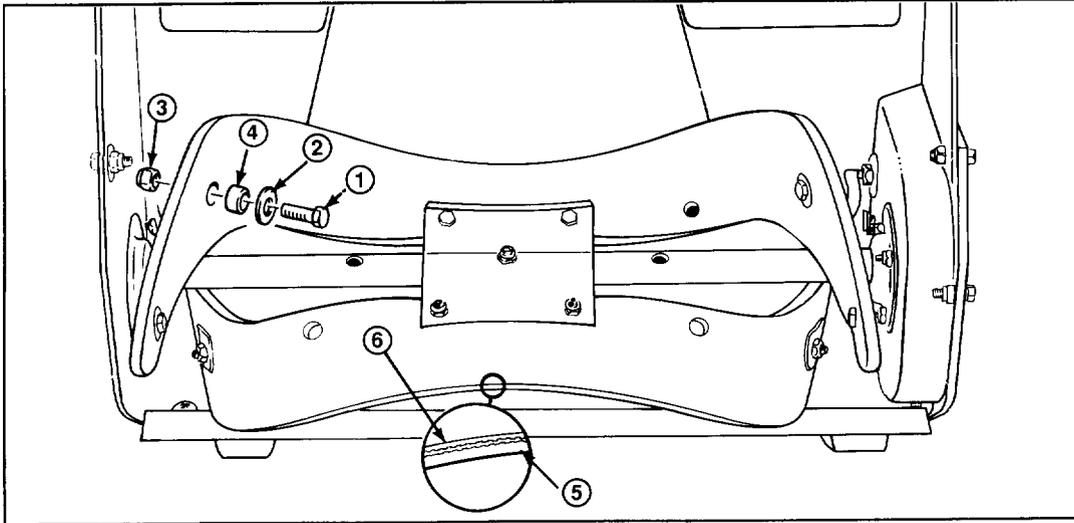

Figure 19
1. REMOVING BLADE (Fig. 19)—Remove (6) 7/16" bolts, (4) washers, and (6) locknuts securing blade to rotor shaft assembly.
2. Slide the blade out from between the steel plates and push the (6) bushings out of the blade holes (Fig. 19).
3. INSTALLING NEW BLADE—The rotor blades are made of laminated rubber. Examine the edge of a blade to see the difference in layer thicknesses (Fig. 19).